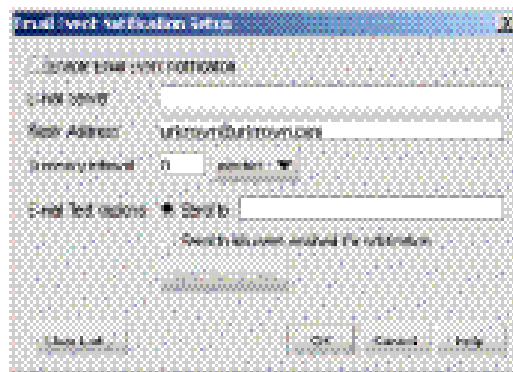

Figure 2-34 Email Event Notification Setup Dialog Box
1. Select *Email* from the *Monitor* menu (*Monitor>Event Notification>Email*). The *Email Event Notification Setup* dialog box appears (Figure 2-34).